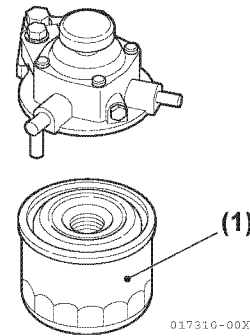
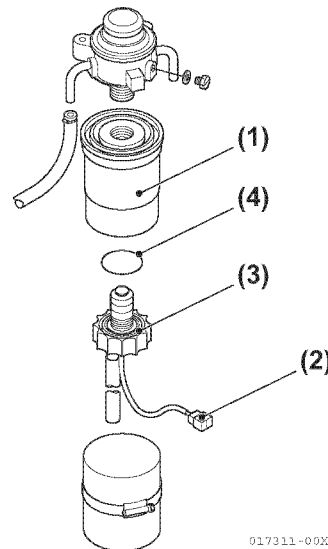

Figure 6-44
Figure 6-45
5. Remove the old filter element (**Figure 6-44, (1)**), (**Figure 6-45, (1)**).
6. Clean the filter bowl. Inspect the water sensor probe (**Figure 6-45, (2)**) for damage. Inspect the bowl seal (**Figure 6-45, (4)**). **NOTICE:** When replacing fuel filters, always pre-fill them with fresh, clean fuel to improve the system ability to be bled.